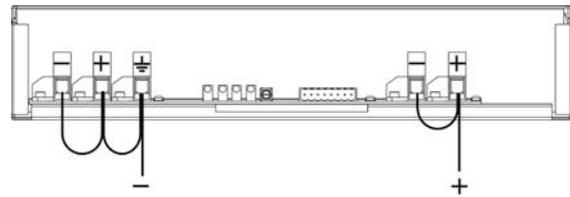

Figure 6. Output to case isolation voltage test.
3. Connect the output terminals together. Connect your isolation tester between output and case. See *Figure 6*.